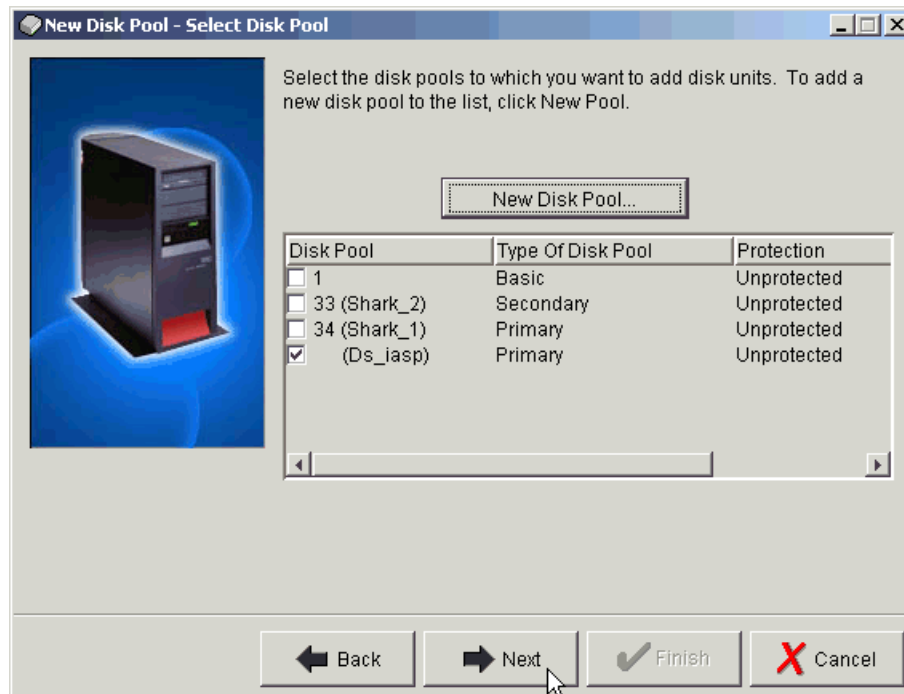

Figure 18-11 Confirm disk pool configuration
- A confirmation panel like that shown in Figure 18-11 will appear to summarize the disk pool configuration. Select **Next** to continue.